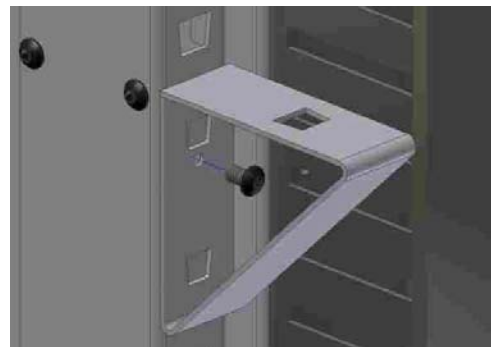

Fig 8
STEP 2 - Mount the **safety screws (M6x10 ISO7380)** of the **kits** to prevent them coming out of the trapezoids (Fig. 8).